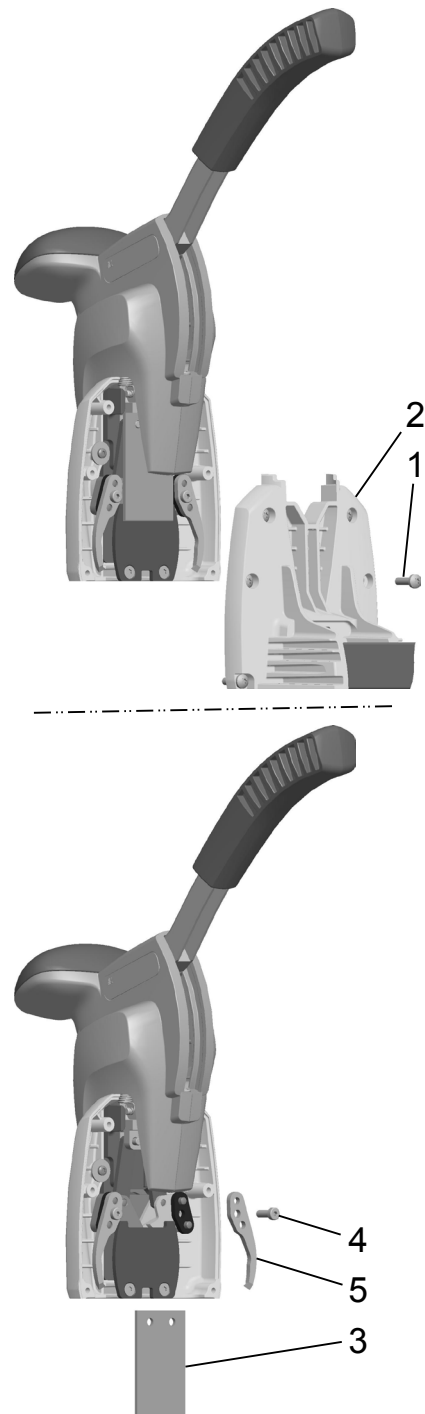

Fig. 10
- Remove six screws (Fig. 10/1) holding the rear body to the front section.